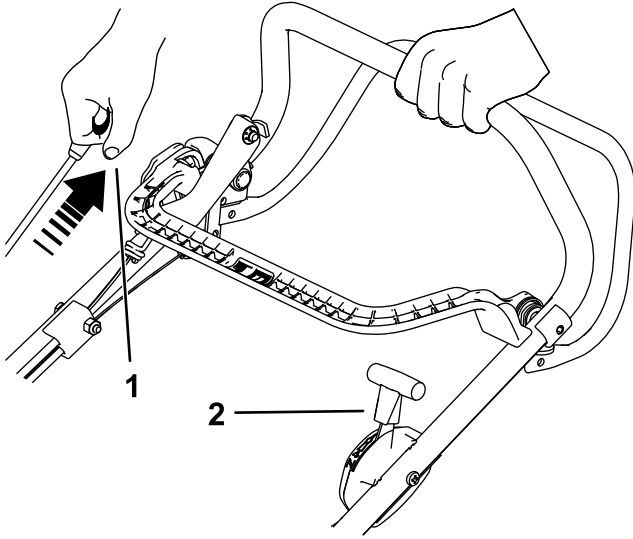

Figure 14
2. Pull the recoil-start handle until you feel resistance, then pull sharply to start. When the engine starts, slowly return the throttle to the FAST position if the choke has been engaged (Figure 14).